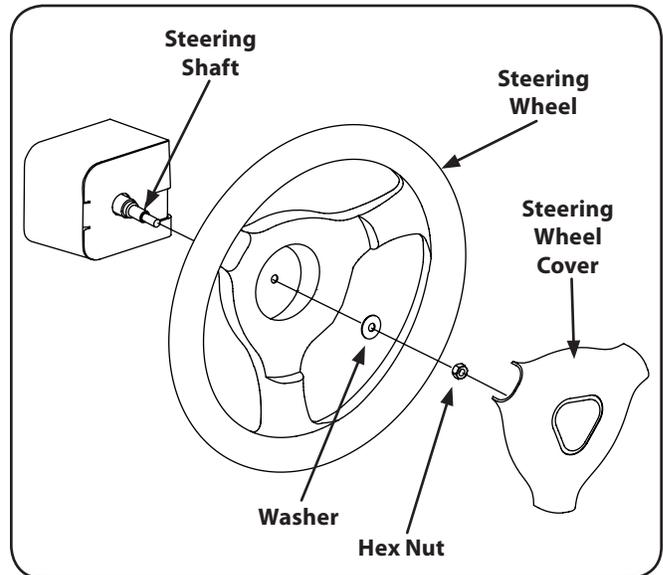

Figure 3-6
- Slide steering wheel over the steering shaft. See Fig. 3-6.